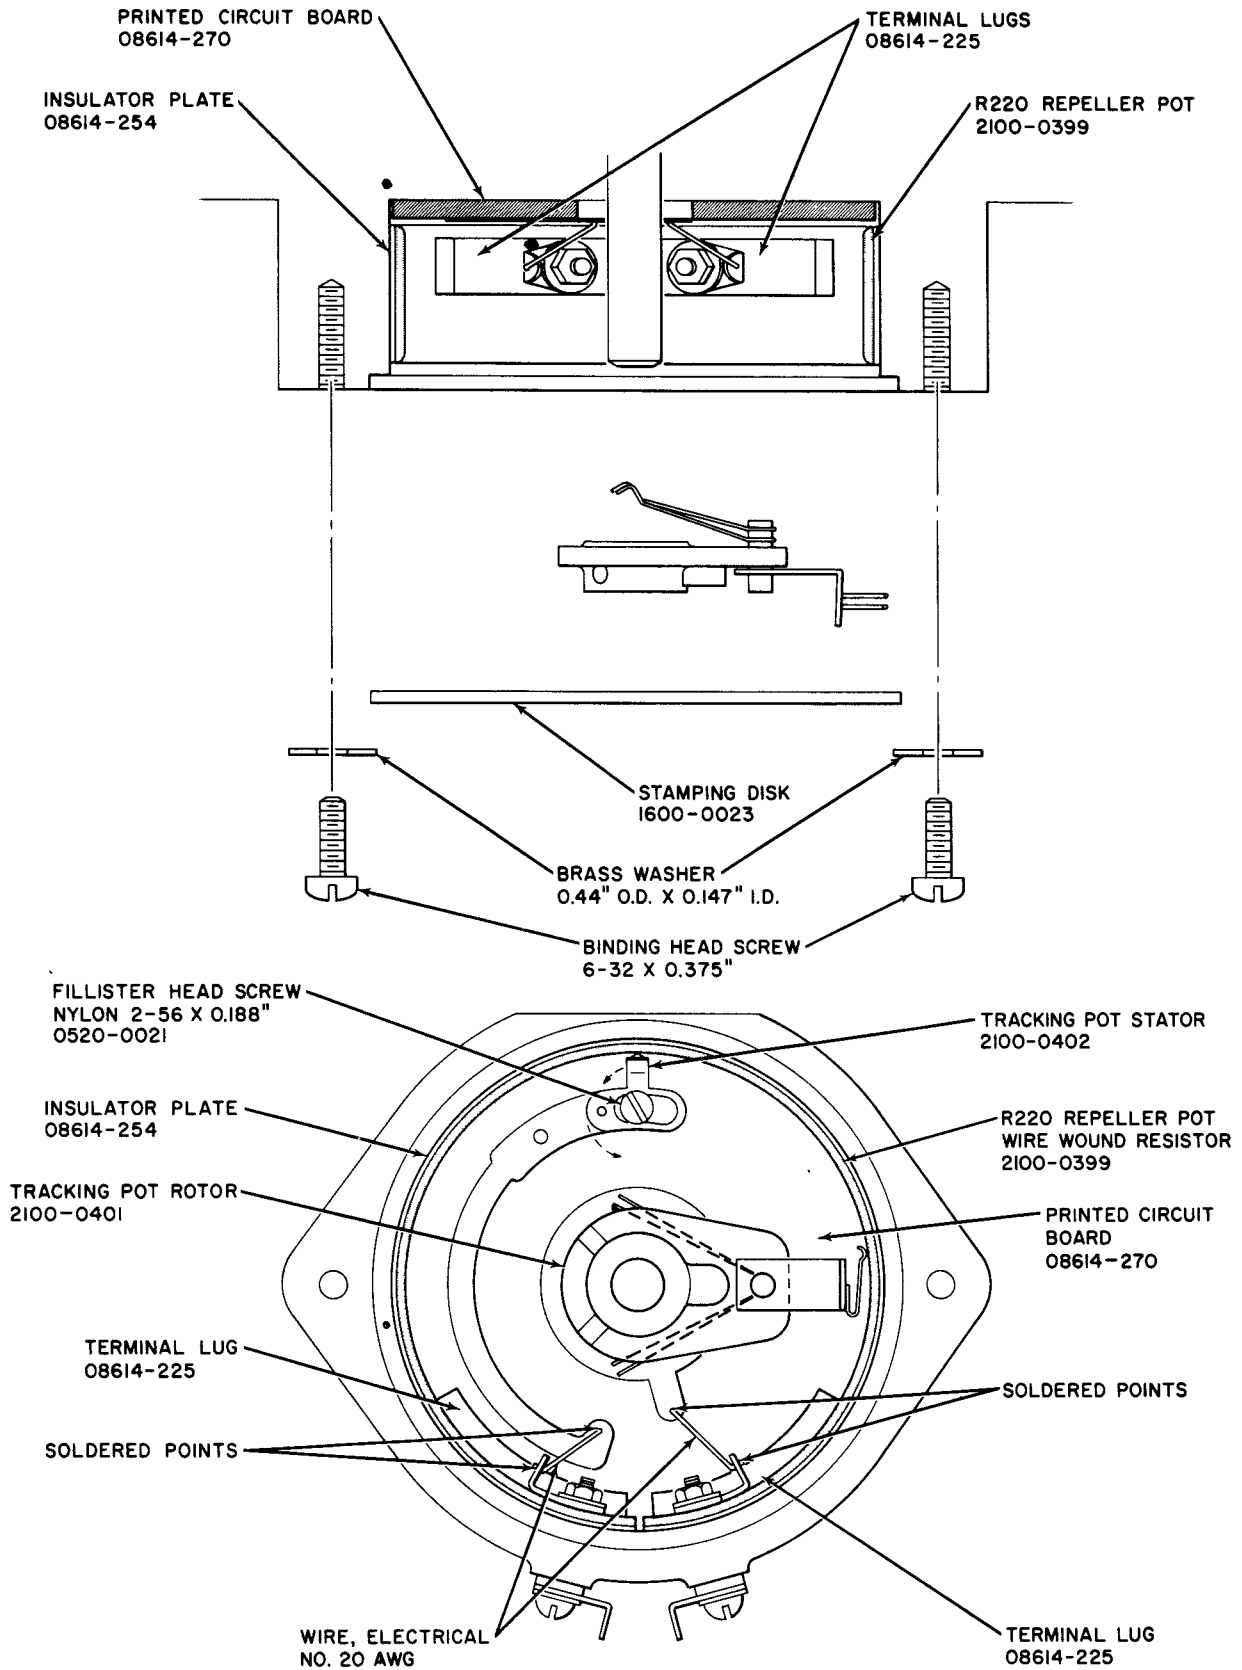

Figure 5-17. Repeller Pot Assembly
5-76. If it is necessary to replace the repeller pot (R220, a wirewound resistor), then both R220 HP Stock No. 2100-0399) and the insulator plate (HP Stock No. 08614-254) must be replaced. Use Figure 5-7 as a location guide and Figures 5-17 and 5-18 as replacement guides and proceed as follows:
- i. Refer to Figure 5-17; R220 must be relatively flat against wall of casting. The resistor can be flattened against casting wall by pushing on edge, CAREFULLY, and tightening in place.
j. Once R220 has been adjusted for flatness and the retaining screws firmly tightened, replace tracking pot rotor in assembly. The tracking pot rotor must be set in place so that contact is made with inner printed circuit board ring at all times. Also, the rotor contact with resistor must be uniform with contact made as illustrated in Figure 5-17: only the curved end of the contacts may touch the repeller pot at any point.
k. Using a flat blade screwdriver to turn the nylon screw, turn tracking pot stator back to original contacting position as illustrated in Figure 5-17.
m. Set FREQUENCY(MC) front panel dial to 1600 and note position of repeller tracking pot rotor: the tracking pot rotor resistor contacts should be positioned almost exactly above the tracking pot stator.
n. Watching the tracking pot rotor to be sure that it does not hit either terminal lug (HP Stock No. 08614-225), very slowly rotate FREQUENCY(MC) front panel dial from one end of travel to the other. If necessary, adjust terminal lug and tracking pot rotor position to ensure that tracking pot rotor will not contact either terminal lug.